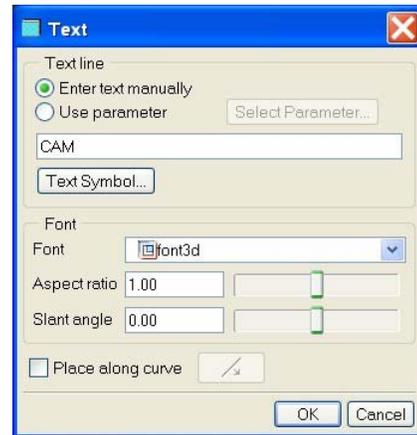
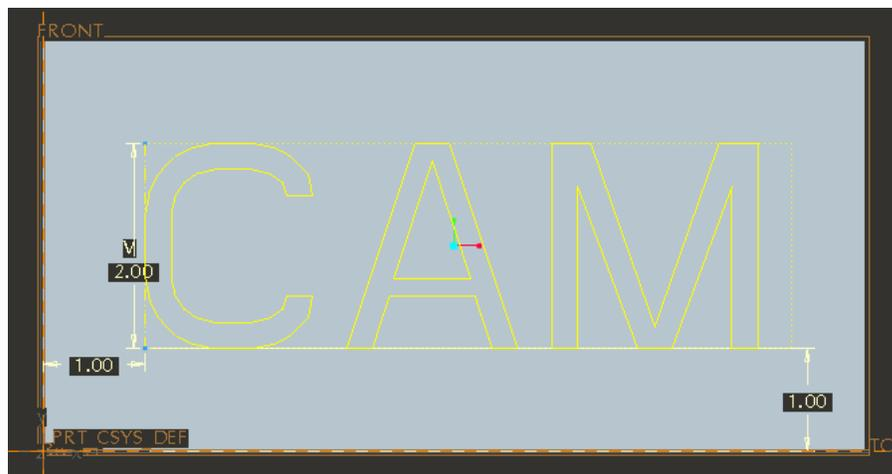

Figure 1.10 The Text dialog
Figure 1.11 Letter CAM
- A. Produce the part model. The part consists of two features, together forming a block (4" x 8" x 1.5") with raised letters "CAM" as shown in Figure 1.10.
- 6) Create 2" x 6" x 0.5" letters "CAM" on top of the block as shown in Figure 1.10.
- Produce letters. Sketch → Text from the menu and pick two points on the sketch plan to determine the height of the text and enter letters CAM as shown in the figure 1.10. Modify the size of the text to 2 x 6 and locate the text to the center of the block as shown in figure 1.11.